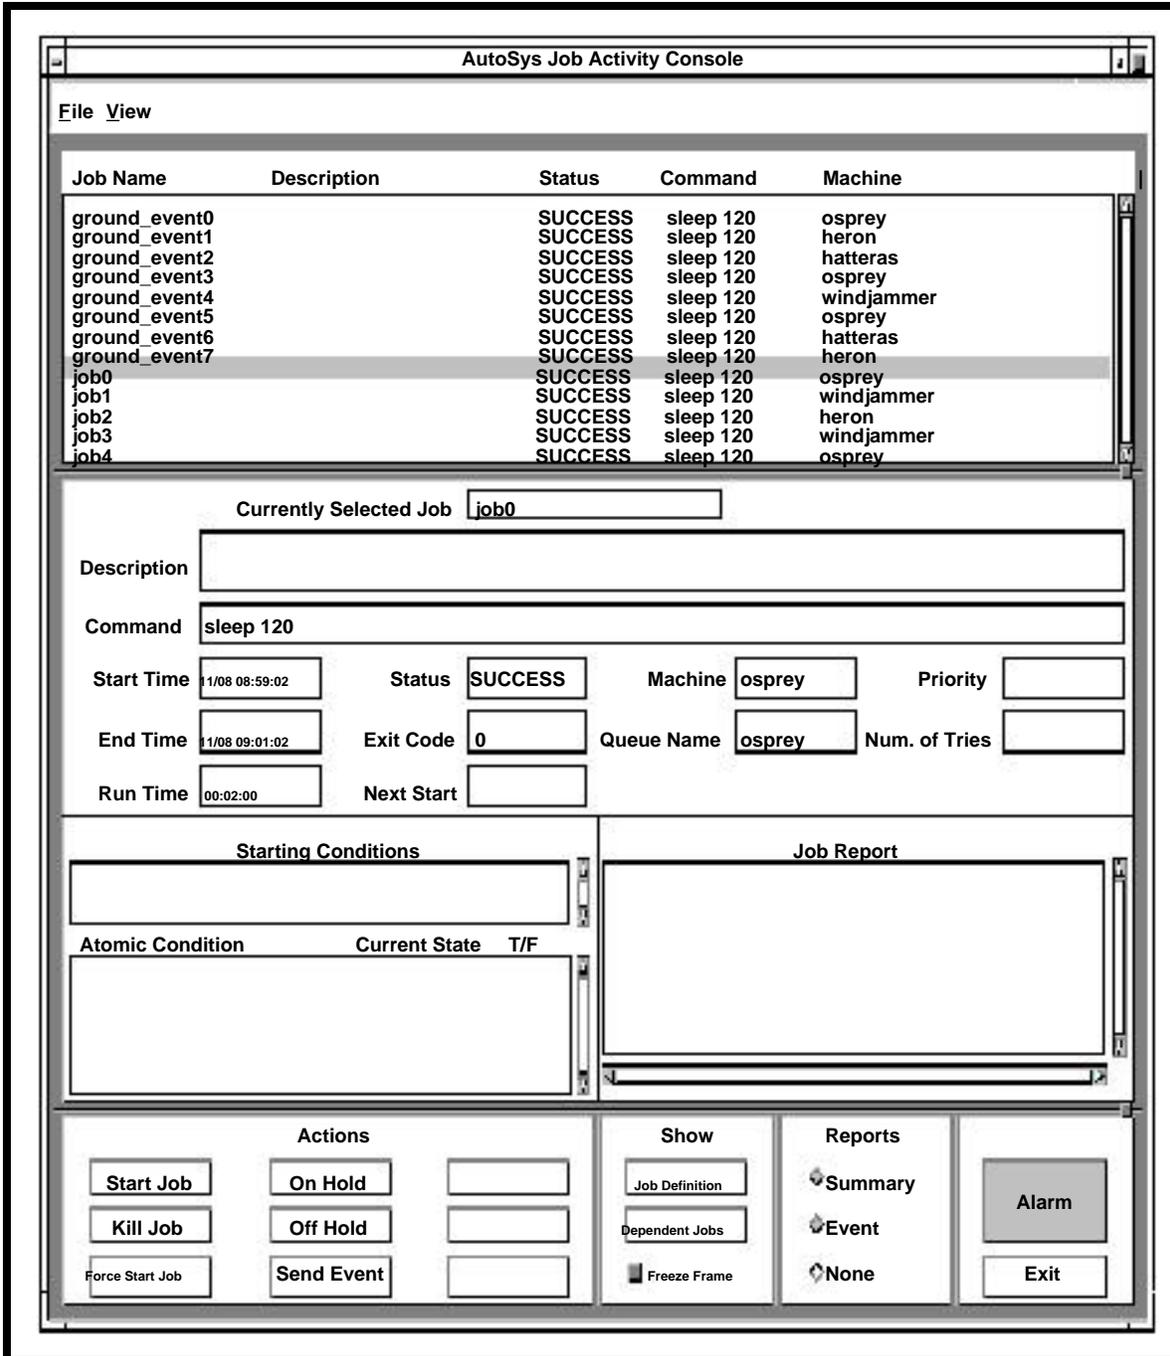

Figure 20. Job Activity Console (Ops Console) GUI
- The **Job Activity Console** GUI, also known as the **Ops Console** GUI, (Figure 20) is displayed.